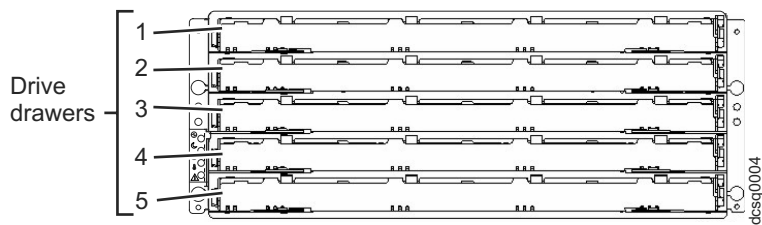
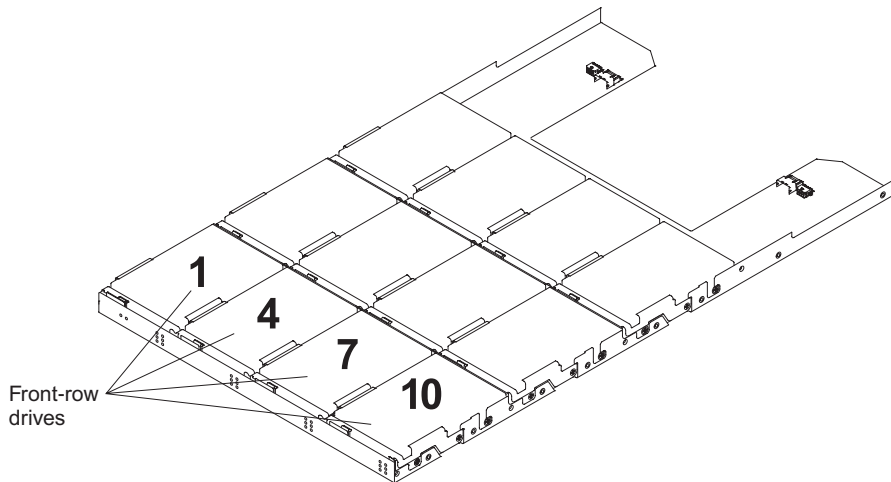

Figure 2. DCS3700 hot-swap drive drawers
Figure 3. DCS3700 drive drawer
Both the DCS3700 storage system and DCS3700 expansion enclosure have five removable drive drawers that are accessible from the front of the enclosure (see Figure 2 on page 8). Each drive drawer can contain up to 12 disk drives (see Figure 3 on page 8). With the drive drawers fully populated, the DCS3700 can support up to 60 DDMs.
**Important:** The installation order within each drive drawer is from left to right in rows. Slots 1, 4, 7 and 10 must have a drive installed in these locations to make sure there is sufficient air flow to the drives (see Figure 3). To verify these slots, consult the overlay on the front of each of the five drive drawers. Make sure the four drives in each row are adjacent to each other. The long edge of each drive should touch the drive next to it. To maintain a uniform airflow across all drive drawers, the storage expansion enclosure must be configured with a minimum of 20 drives, with four drives in the front row of each of the five drive drawers.